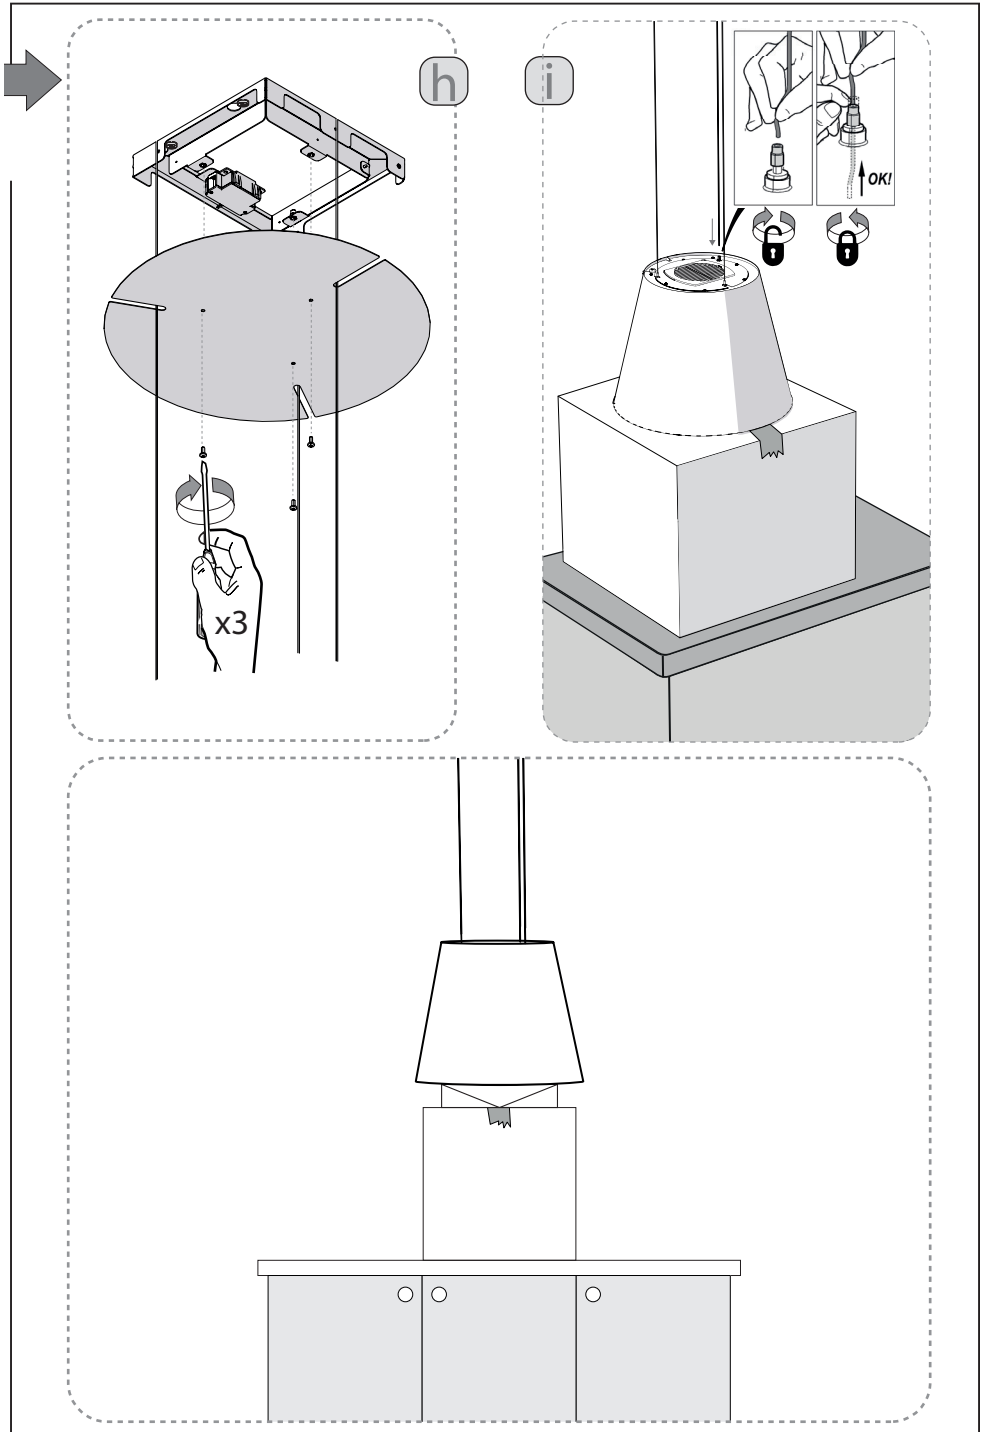

Fig.3
- Follow the instructions in figure 3.